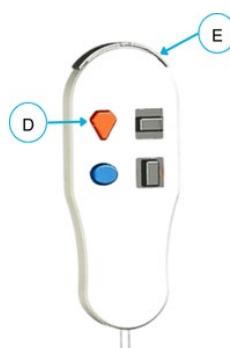

Figure 12-23: Controller Vapor Delivery Button and Perineal Saline Flush Button
3. Press the **Vapor Delivery Button (D)** and hold down until treatment is complete (Figure 12-23).
4. After completion of a full 10 second treatment, the **Vapor Delivery Button (D)** should be released.
■ **NOTE:** At any time, extra saline can be injected through the Transperineal Saline Catheter Needle into the periprostatic space by pressing the **Perineal Saline Flush Button (E)** at the top of the Controller (**Figure 12-23**).